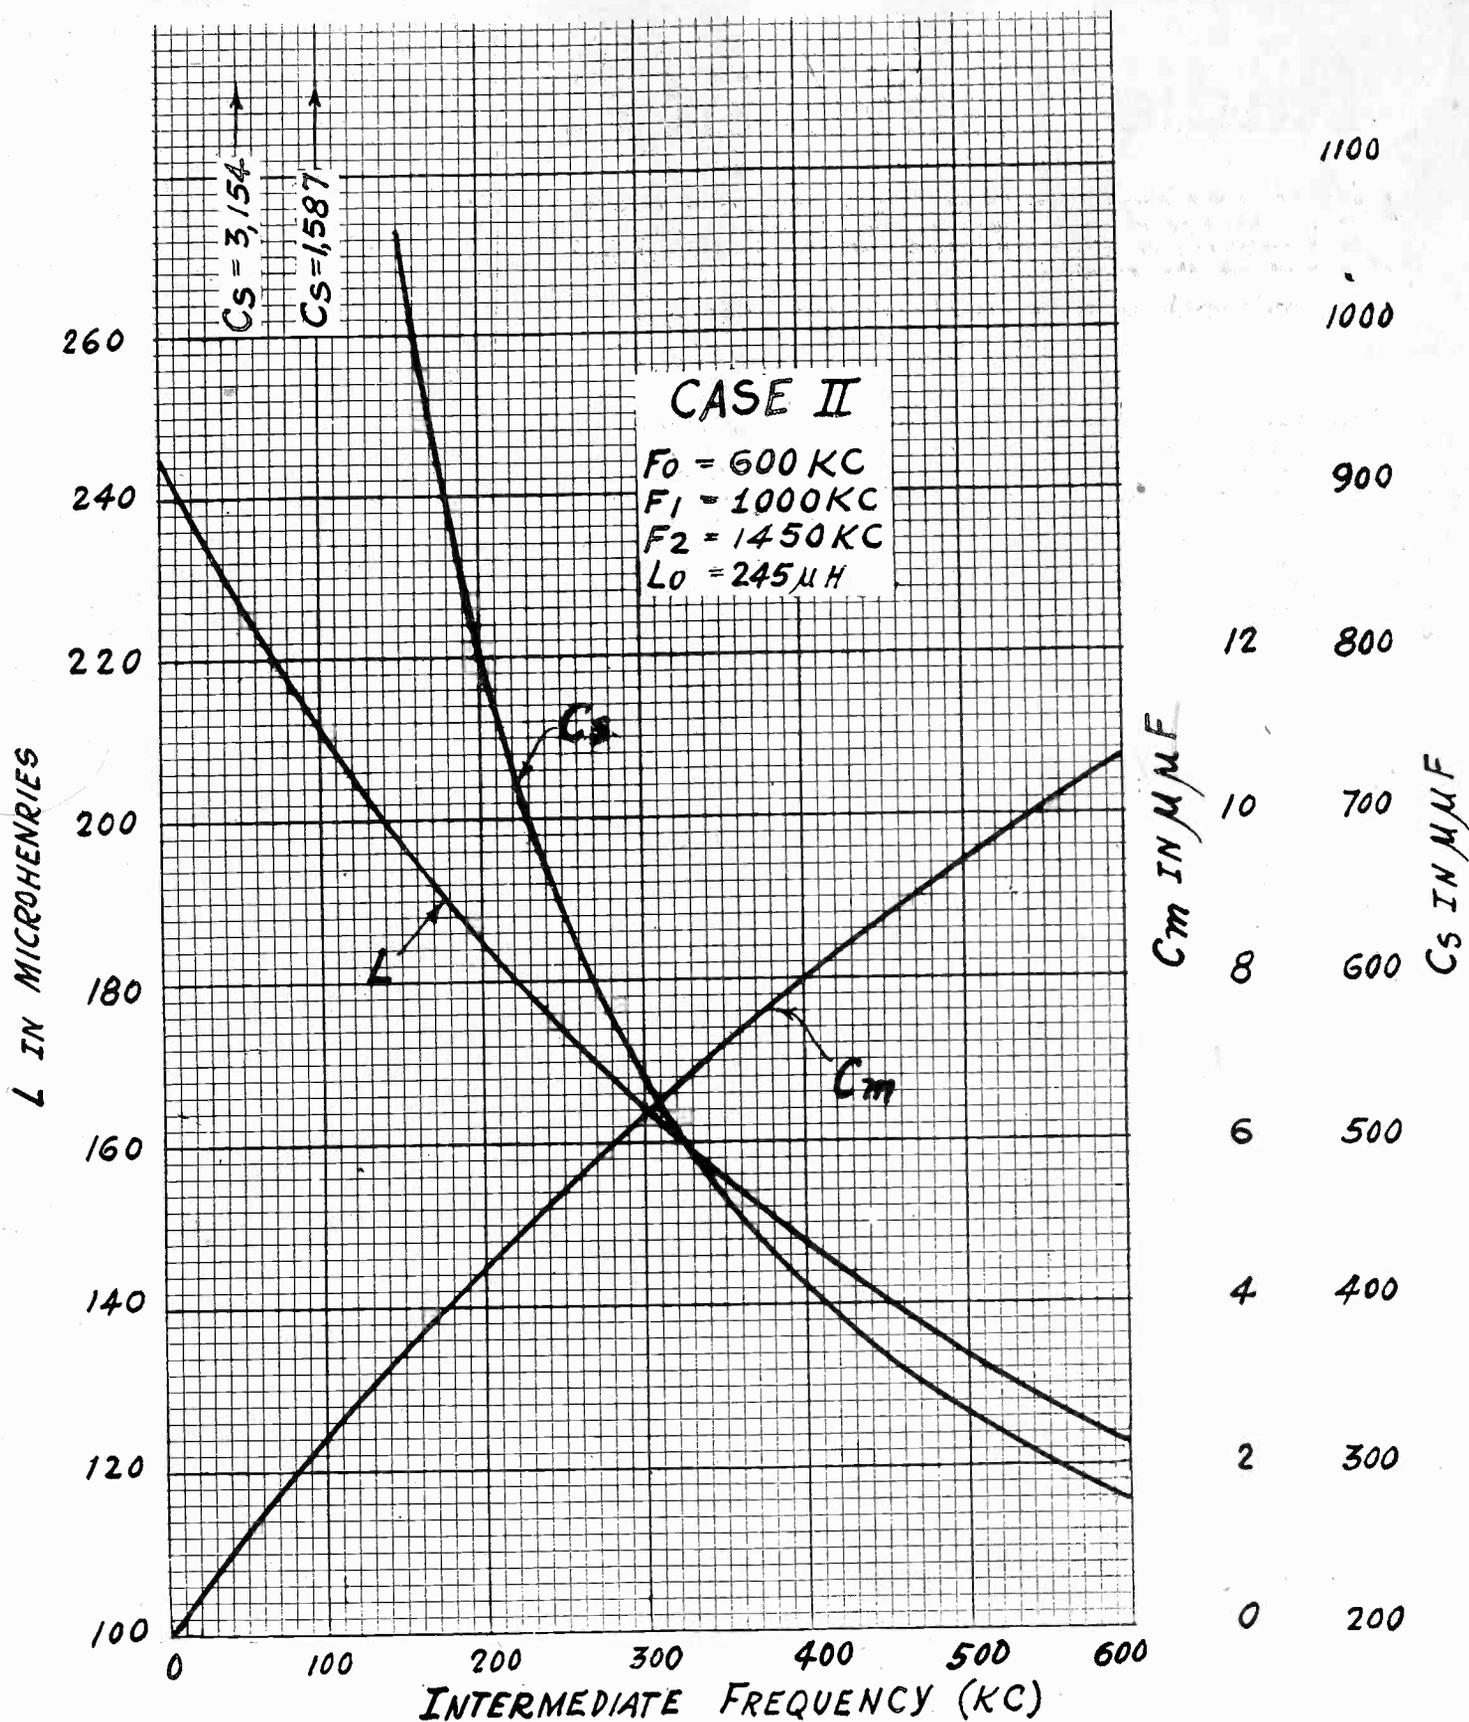

FIG. 2
The curves in Fig. 2 have been computed with formulas (3), (4), and (5) at intervals 50 kilocycles from  $f = 0$  to  $f = 600$  kc.  $L$  varies from 245 to 122.8 microhenries,  $C_m$  varies from zero to 10.1 mmfd., and  $C_s$  varies from infinity to 255.5 mmfd. Since  $C_s$  varies very rapidly as the intermediate frequency becomes low, the last value given on the curve is that for  $f = 150$  kc. However, the two values at 100 and 50 kc are indicated at the appropriate abscissas.